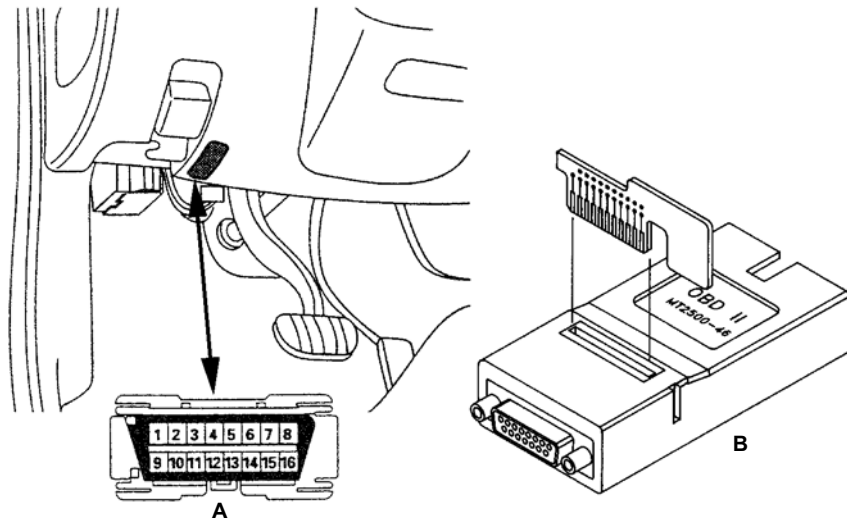

Figure 10-20 2003–04 Ascender ABS connector
- Connect the OBD-II adapter to the 16-pin connector (Figure 10-20).
Start codes by:	After bringing the vehicle to a complete stop, and making sure the brake pedal is not depressed, turn the ignition switch to the off position. Connect terminals 12 and 4 on the OBD-II 16-pin diagnostic link connector (Figure 10-20). Turn the ignition switch to the on position.